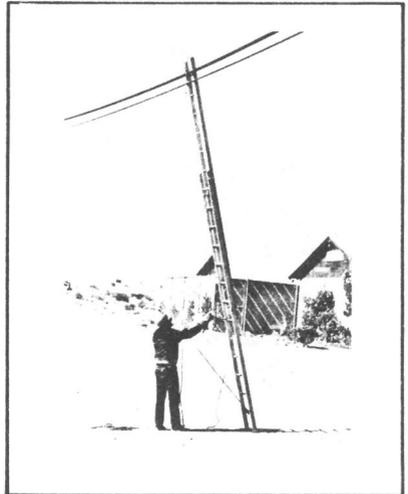

**FIGURE 27.**
**17.08** Continue pulling the free end of the handline until the ladder is in a vertical position under the strand as shown in Figure 27.
**17.09** As mentioned in paragraph 17.04, if the ladder base was not placed under the strand, the base should be moved directly under the strand. To do this, tie the free end of the handline to a ladder rung with a clove hitch and two half-hitches and move the base of the ladder in position under the strand. Untie the free end of the handline and pull on the handline until the ladder is vertical as shown in Figure 27.